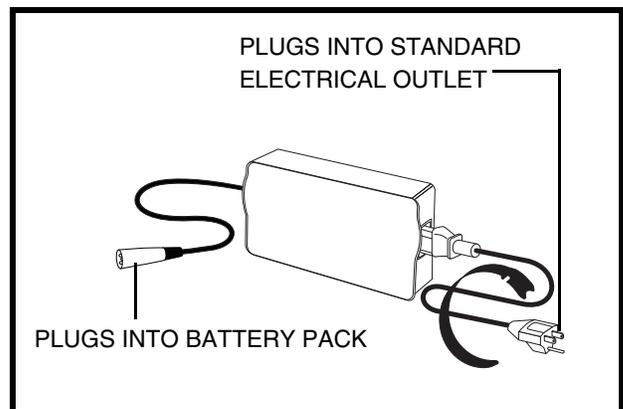

Figure 13. Off-board Battery Charger
4. Plug the charger power cord into the charger power cord receptacle on your Travel Scooter, then into the electrical outlet. **See figure 13.** We recommend that you charge the batteries for 8 to 14 hours.